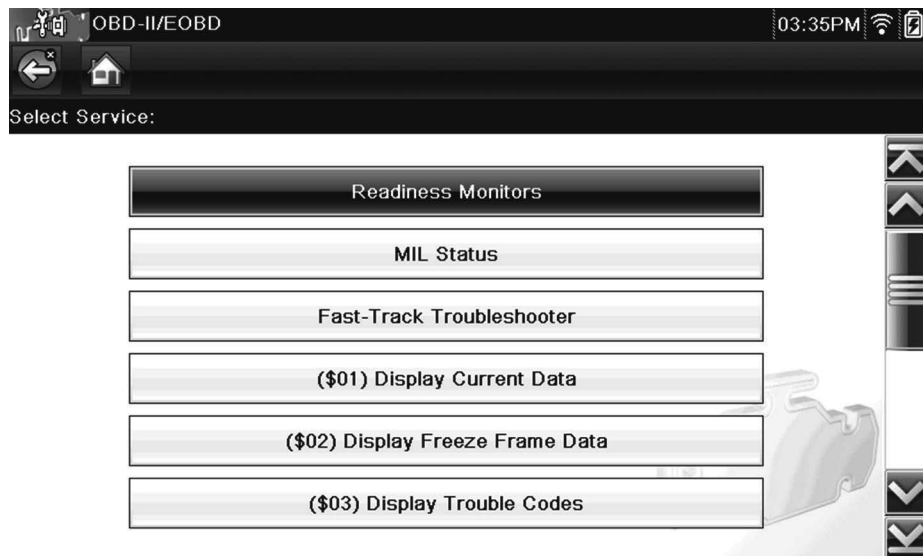

Figure 11 Typical - OBD-II/EOBD Mode/Service Menu (Solus Edge/Modis Ultra)
5. Select **Continue**, then a menu of available tests displays (*Figure 11*).